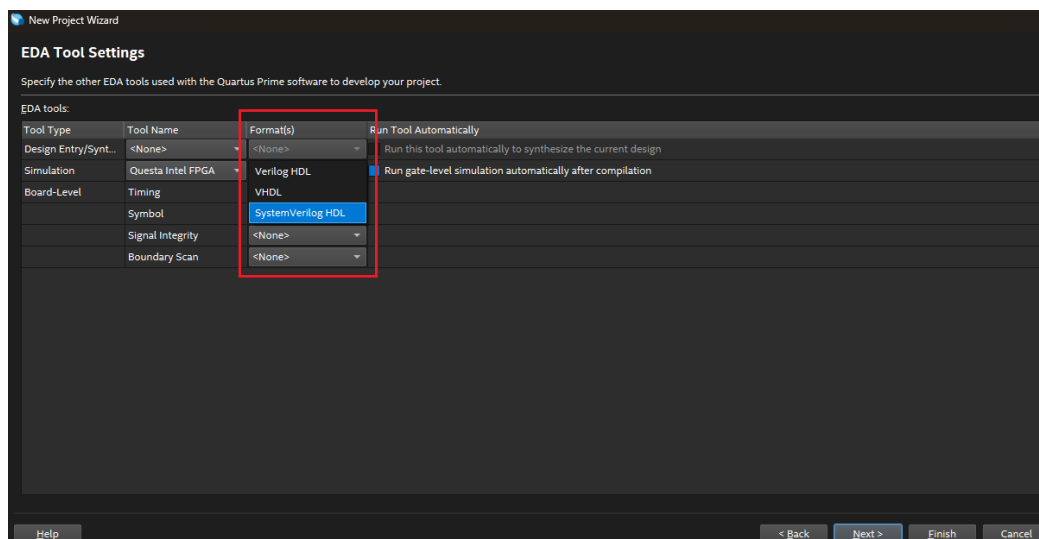

Figure 3. EDA Tool Settings
10. In the **EDA Tool Settings**, on the second row under the **Format(s)** column, select **SystemVerilog HDL** as shown in Figure 3. Click **Next** to continue.